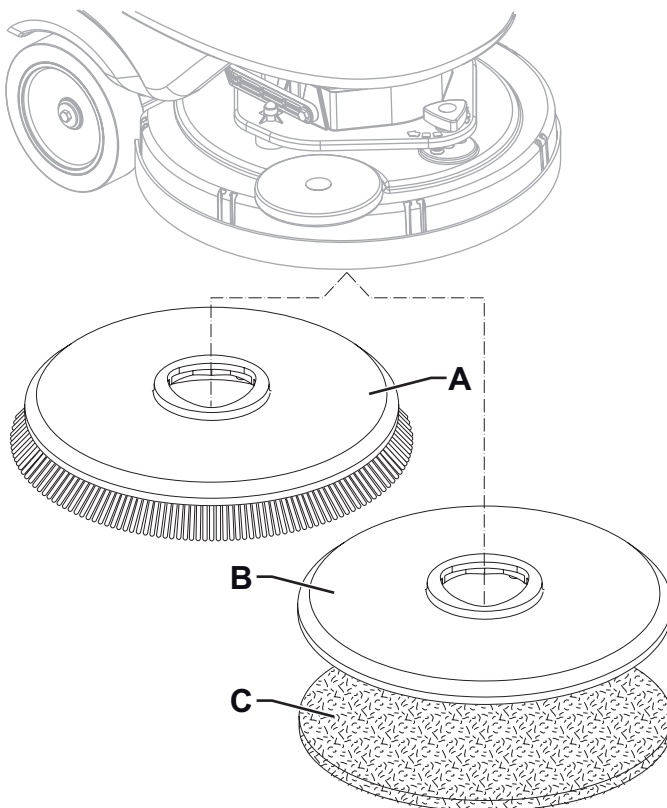

Figure 2
According to the kind of cleaning to be performed, the machine can be equipped either with the brush (A, Fig. 2) or the pad-holder (B) with pad (C) together with the appropriate deck.
1. Place the brush (A) or the pad-holder (B) under the brush deck (26).
2. Place the user key (51) in the key reader (41), then press the push-button (42) to start the machine.
3. Press the turtle push-button (45) to reduce the driving speed to idle.
4. Press the One-Touch button (43) to lower the deck onto the brush.
5. To engage the brush, press the paddle (2), then release it. If necessary, repeat the procedure until the brush is engaged.